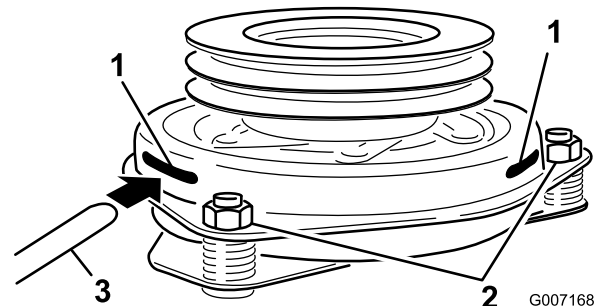

Figure 63
8. Insert a 0.381 to 0.533 mm (0.015 to 0.021 inch) feeler gauge through an inspection slot in the side of the assembly. Make sure that the feeler gauge is between the armature and the rotor friction surfaces (Figure 63).
9. Tighten the locknuts until there is slight binding on the feeler gauge but it can be moved easily within the air gap (Figure 63).